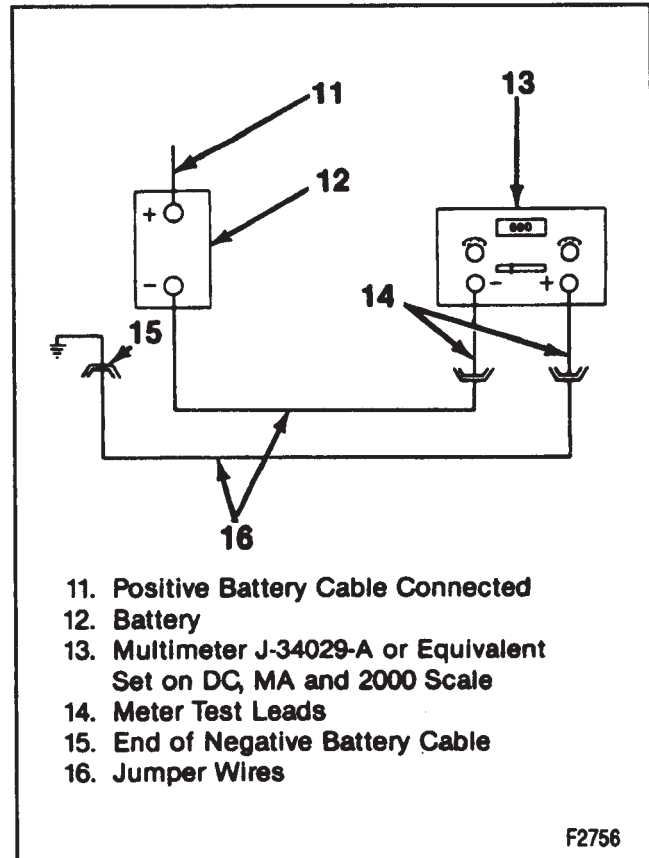

Figure 8—Battery Drain Test
8. Remove the 3 mm2 (12 gage) jumper wire. The multimeter will now be wired as shown in figure 8.